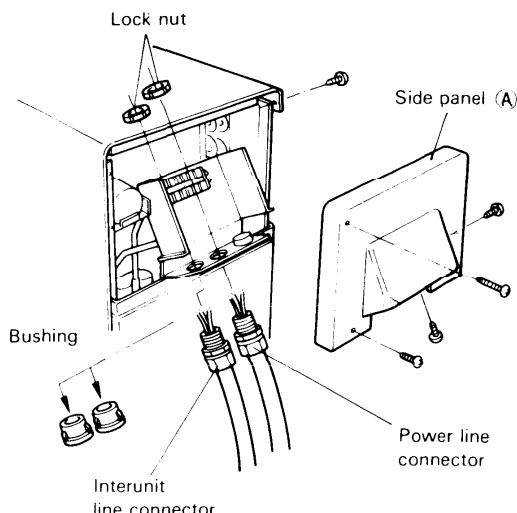

Fig. 11
**NOTE** : When working only on the wiring, it is possible to gain access to the wiring terminals by simply removing the side panel (A). Fig. 11